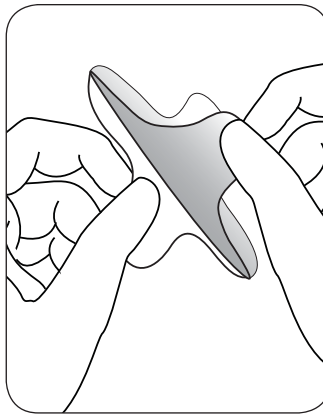

figure 10A: Removing Paper Liner
A. Hold the applicator so the bottom of the bandage faces up. Remove the paper liner from the back of the bandage, revealing the bandage adhesive (Figure 10A).